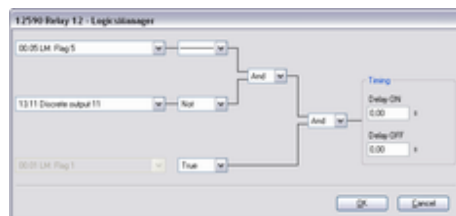

Fig. 212: LogicsManager function "Relay 12"
2. Configure the LogicsManager function "Relay 12" as shown in (Fig. 212).